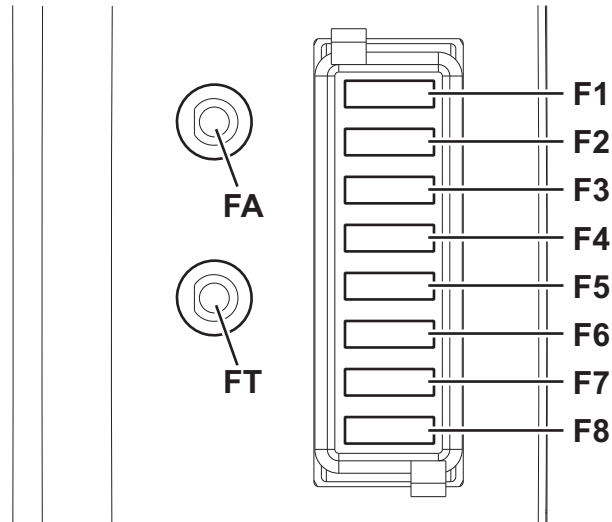

Figure 23
5. Remove the fuse box cover (49).
6. Check/replace the relevant fuse among the following (Fig. 23):
7. Check one of the following fuses (50 and 51) (Fig. 23) for deactivation: